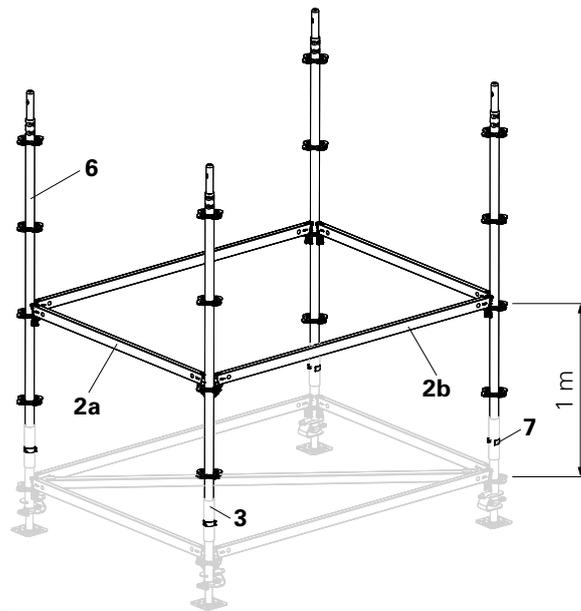

Fig. A1.03
- Height change of the decking is 1 m. Install the first level at 1 m spacing to the base unit. (Fig. A1.03)
1. Insert Standards (6) into the Base Standard (3) - 4x. (Fig. A1.03)
2. Install Ledger (2a + 2b) - 2x each. (Fig. A1.03)
3. Optional: installation of Locking Pins (7). (Fig. A1.03)